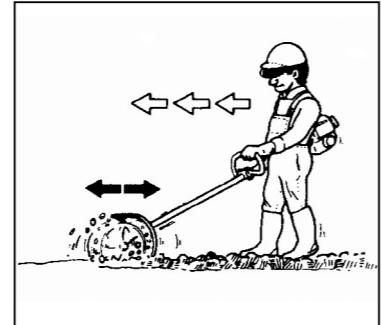

Fig. 5
a. For standard tilling. Walk forward as pulling and pushing the unit little by little like using a vacuum cleaner. (Fig. 5)